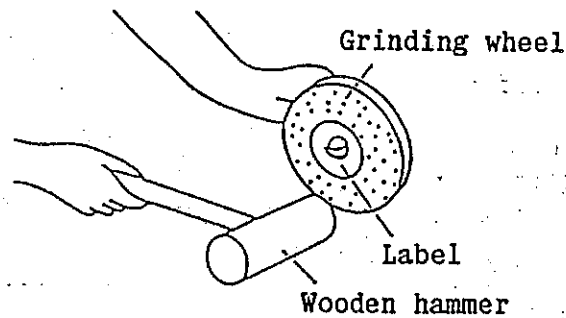

Fig. 11-1 Appearance Check of the Wheel
- Slightly hit on the face side of the grinding wheel using a wooden hammer to check for clear sound. If there is a crack or break, an unclear sound will be emitted, so that, do not use such wheels. ▶ See Fig. 11-1.